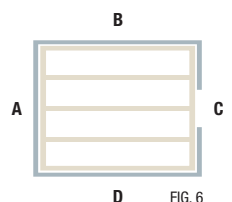

FIG. 6
- 7 Insert the cradle battens into the cradles. Start around the perimeter and then along the original marked ping lines. Cradle battens should be laid in a staggered formation and all battens must join within a cradle. (Fig. 6)